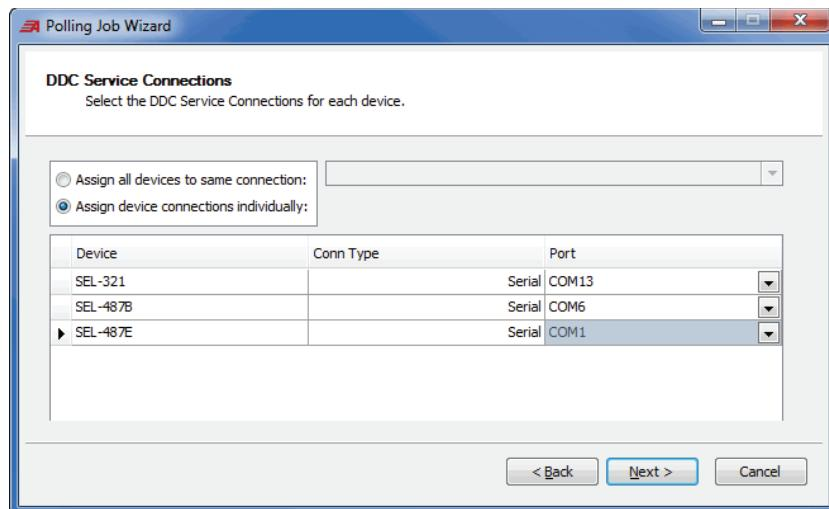

Figure 90 DDC Service Connections Window
- Step 4. At the **DDC Service Connections** window, select **Assign device connections individually** and assign the connections shown in *Figure 90*.